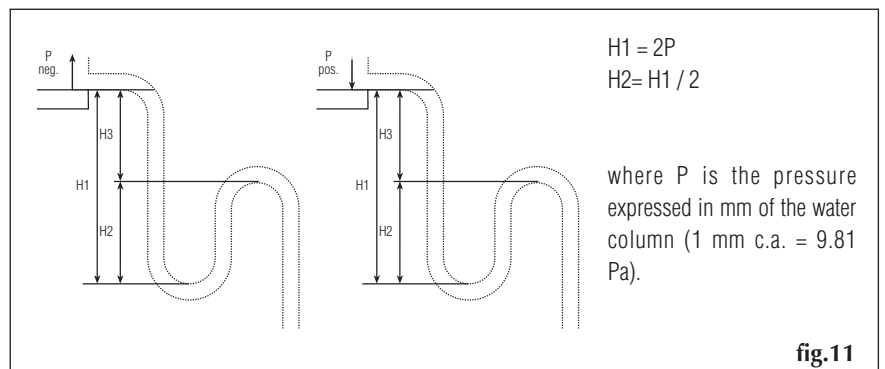

fig.11
- a space of at least 200 mm must be available for the trap in correspondence with the condensate drain. (fig. 11 pag. 12)